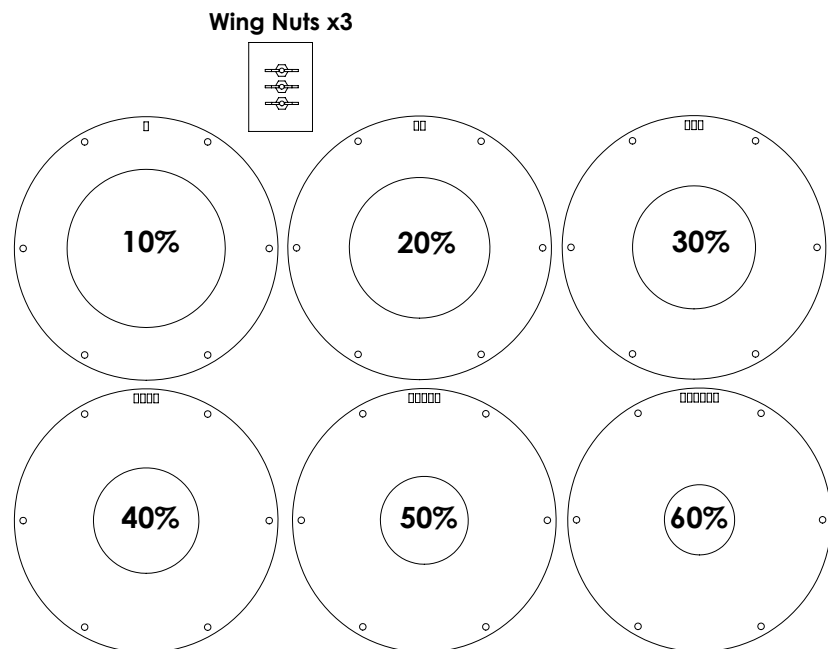

Figure 49 RestrictorRing Kit
**Note:** There are six different restrictor sizes, they are marked with rectangular holes which coincide with the percentage of restriction (Figure 49).